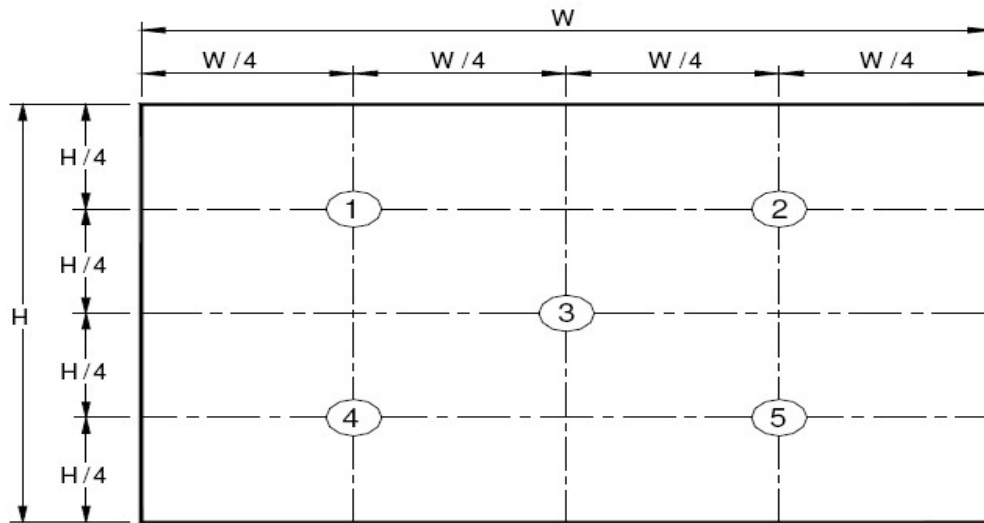

Figure 10. White Luminance Measurement Locations (5 points)
(1) The chromaticity coordinates specified in Table the center of the panel. 5 should be calculated from the measurement spectrum of all pixels in red, green, blue, and white, which need to be converted to C-light standard light source, and should be measured in
(2) Center Luminance of white is defined as luminance values of 5 point average across the LCD surface. Luminance shall be measured with all pixels in the view field set first to white. This measurement shall be taken at the locations shown in Figure 10 for a total of the measurements per display.
Luminance shall be measured with all pixels in the view field set first to white. This measurement shall be taken at the locations shown in Figure 10 for a total of the measurements per display.